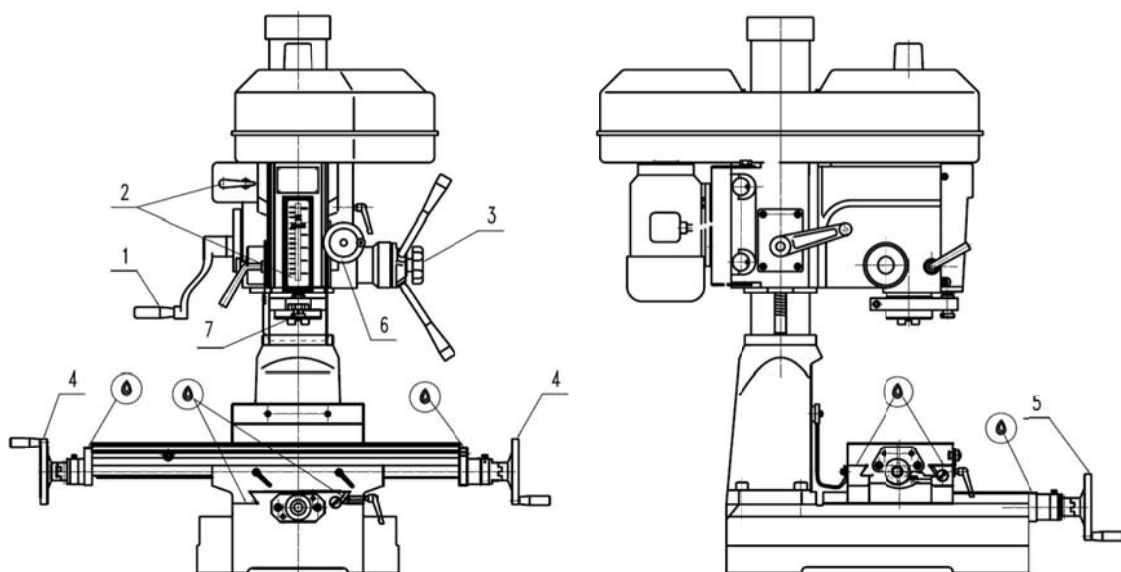

Fig.1
(2)After cleaning,coat all bright work with a light lubricant,Lubricant all points in Fig.1 with a medium consistency machine oil.
5.USE OF MAIN MACHINE PARTS (See Fig.1)